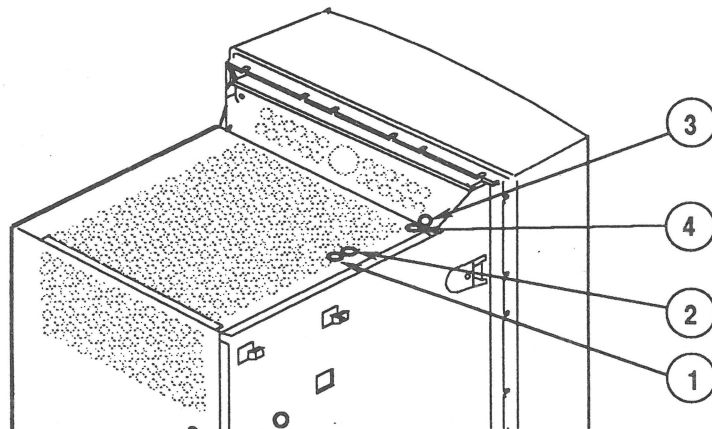

FIGURE 9
4. Using the insulated screwdriver, turn the SCREEN control (Figure 9, #1) to its full counterclockwise position. This increases the brightness of the display.
- a) Turn the static focus (FOCUS) control (Figure 9, #2) to attain the best possible overall focus.
- b) Turn the horizontal focus (H.F.) control (Figure 9, #3) to attain the best possible focus along the left and right edges of the display.
- c) Turn the vertical focus (V.F.) control (Figure 9, #4) to attain the best possible focus at the top and bottom of the display.